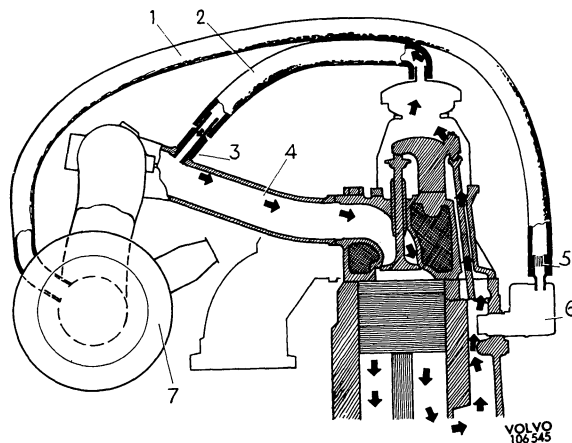

Fig. 2-12. Positive crankcase ventilation
Between the rocker arm casing and the inlet duct there is a hose (2, Fig. 2-12). It is connected to the intake manifold by means of a calibrated nipple (3). (This nipple should be cleaned every 40 000 km = 25 000 miles.) Between the oil trap, which is connected to the crankcase, and the in-